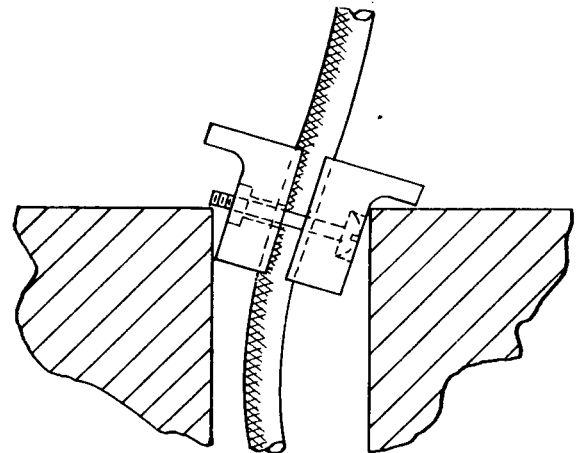

FIG. 6 ACCEPTABLE METHOD OF POSITIONING CLAMP ASSEMBLY ON FRAME BATTERY AND GROUND FEEDERS (PAR. 5.512)
5.512 The frame battery and ground feeder clamp assembly should be seated in the hole provided on top of the frame whenever possible. However it is acceptable if the clamp is positioned as shown in Figure 6. The purpose of the clamp is to prevent the power wire from rubbing against the sharp edges on the top of the frame and to give vertical support